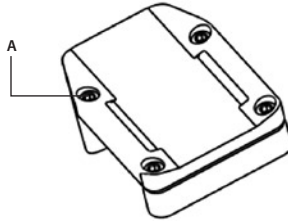

FIGURE 4-6. ADVANCED WIRELESS REMOTE CONTROL. BATTERY INSTALLATION
1. Using a screwdriver, unscrew the four screws (A, Figure 4-6) that affix the cover to the bottom of the unit. Remove the cover.
3. Replace the cover and retighten the screws (A).